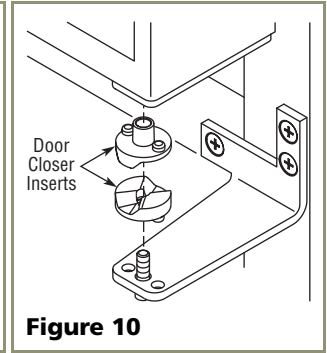

Figure 10
4. Remove the two door closer inserts from the existing bottom hinge and install as shown on the new bottom hinge (see **Figure 10**).